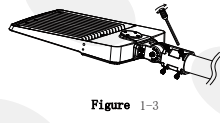

Figure 1-3
- Step3: Mount the fixture on the light pole and fix it with screws firmly to ensure that the fixture cannot be rotated or shaken, Figure 1-3;